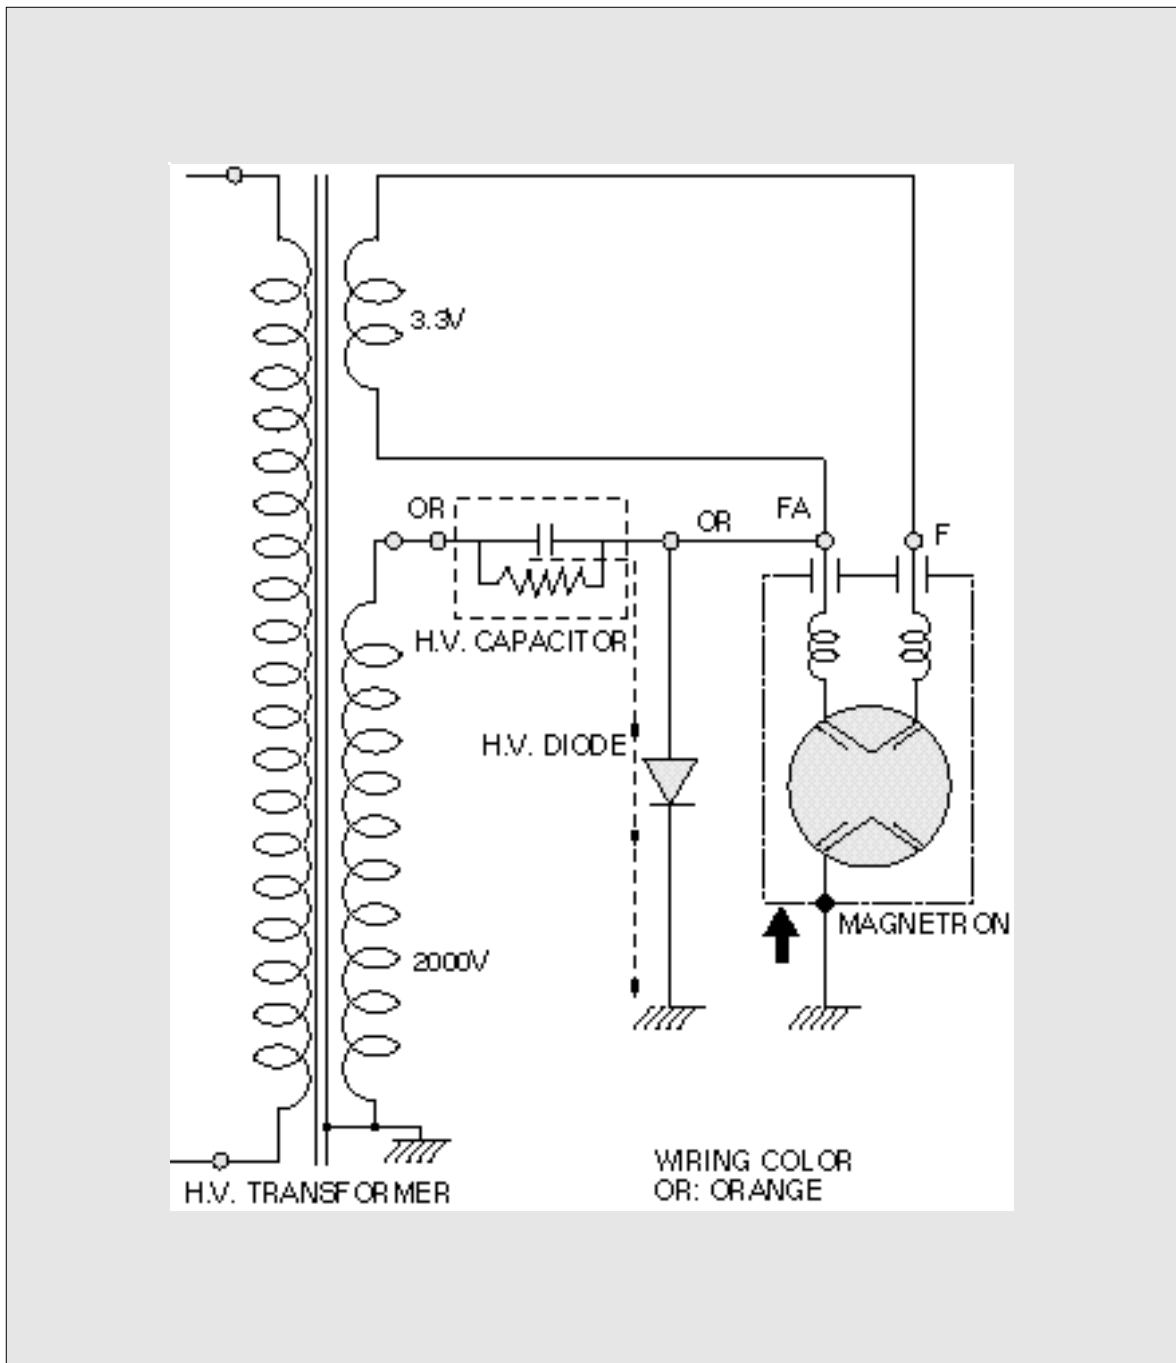

Fig. 2
- 6) A high voltage of 2000 Volts Ac is generated in the secondary of high voltage transformer and this secondary voltage is increased by the action of the diode and the charging of the high voltage capacitor. This resultant DC voltage is then applied to the anode of the magnetron. As shown in Fig. 2 the first half cycle of the high voltage produced in the high voltage transformer secondary charges the high voltage capacitor. Current flow is in the direction of the dotted-line during the second half cycle, the voltage produced by the transformer secondary, and the charge of the high voltage capacitor are combined and applied to the magnetron as shown by the solid line so that oscillations begin. The disturbance wave generated by the magnetron is prevented by the choke coils of 3.2 μ H, filter capacitor of 16pF and the magnetron's shielded case so that TV and radio programs are not impaired by noise.